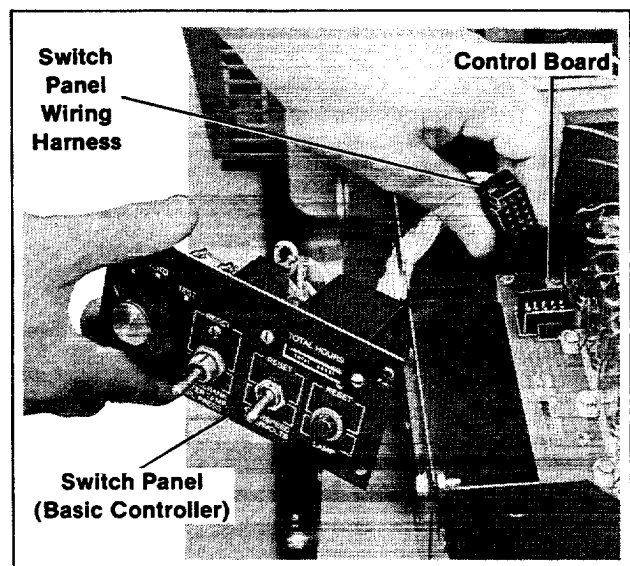

Figure 1. Removing Switch Panel (Basic Controller)
4. Unscrew and remove switch panel from controller/regulator tray (Figure 1). Remove front black panel from Meter Box assembly. Mount black panel to controller/regulator tray where switch panel was removed. Insert switch panel into Meter Box assembly where black panel was removed and mount.